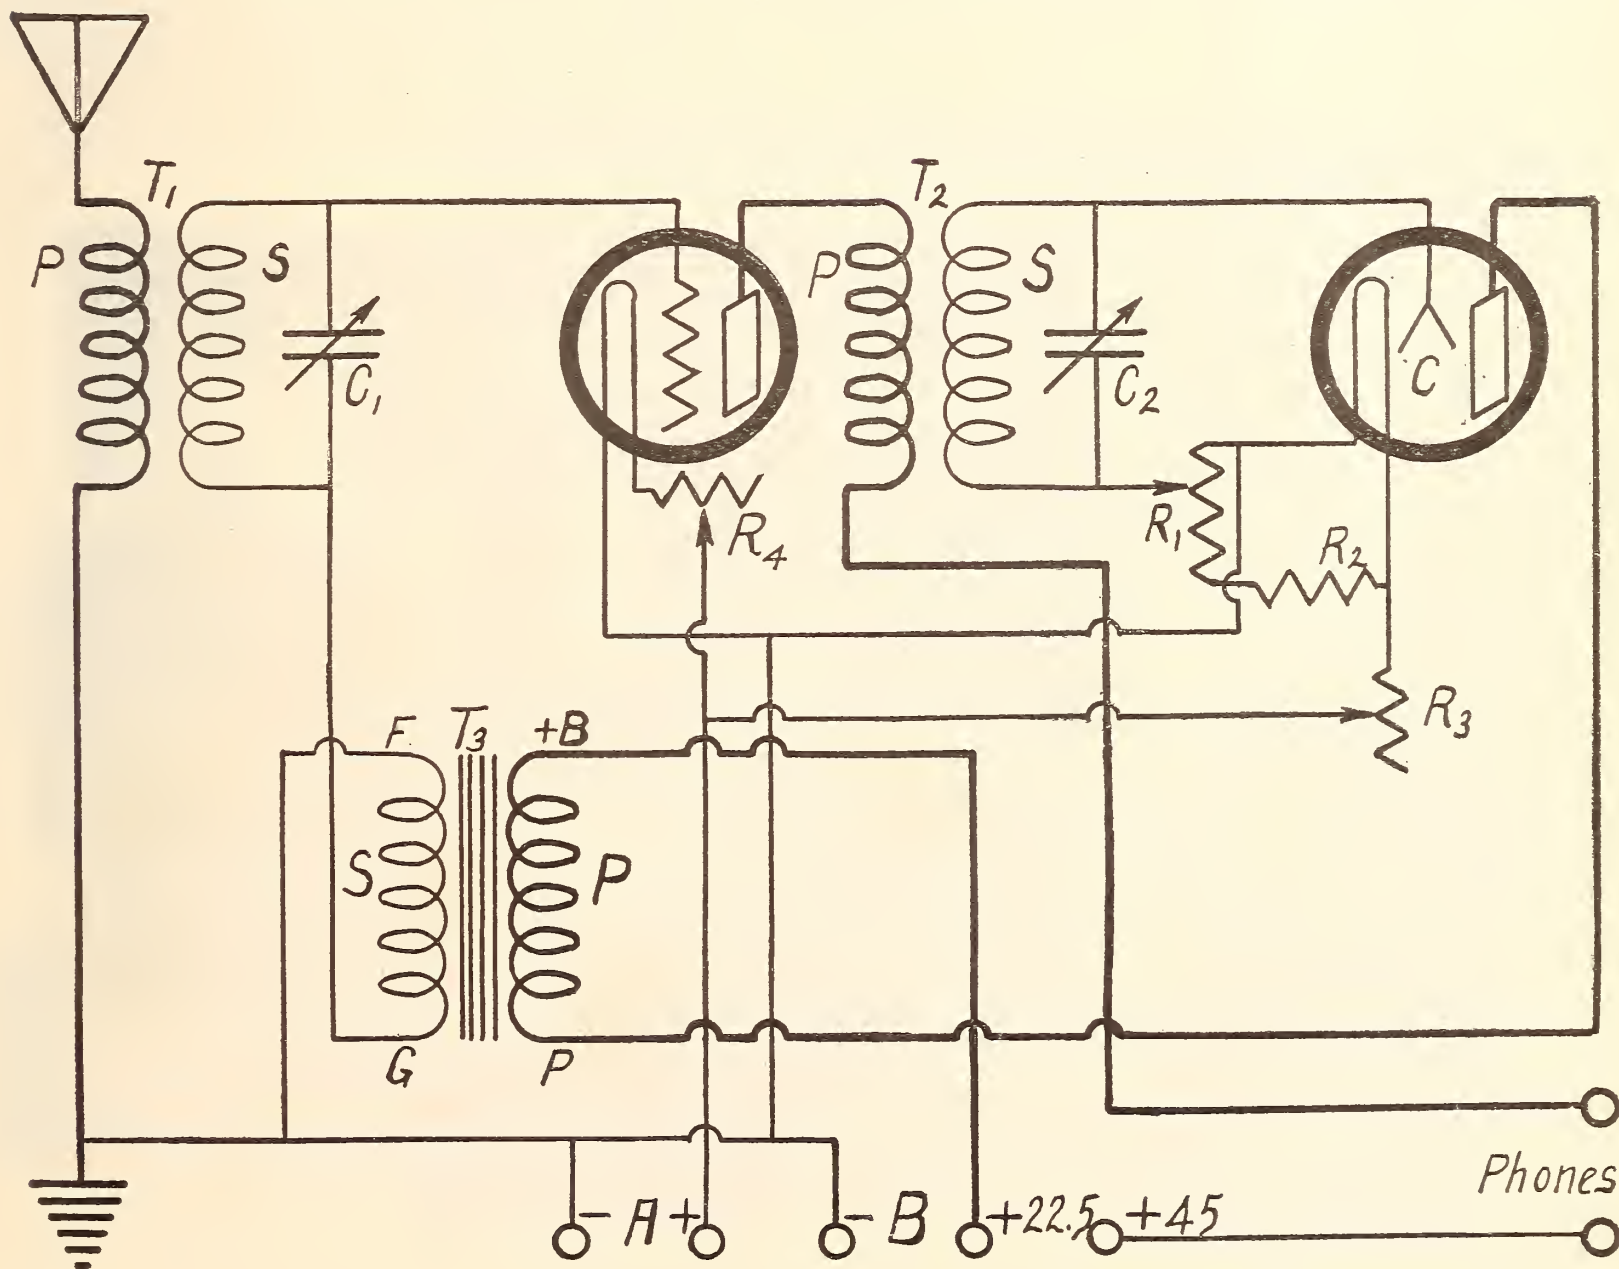
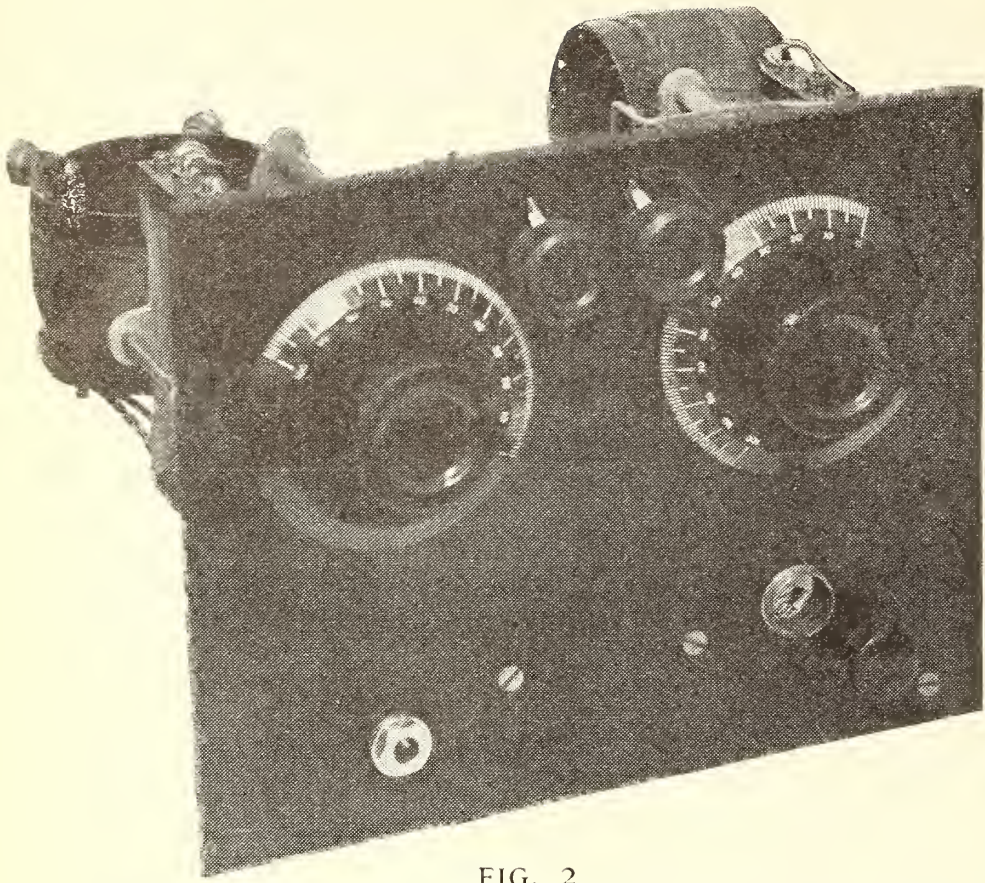

FIG. 1
FIG. 2
Connection of wavemeter circuit of Fig. 1 as a wavetrapp. The meter vacuum tube circuit is omitted in this case
Connection of wavemeter circuit in Fig. 1 as wave trap in loop receiver. The vacuum tube circuit is omitted as indicated by the dotted lines
By the addition of the units shown here the wavemeter of Fig. 1 may be used as one stage of tuned radio-frequency amplification with any receiver. The .00025 condenser may be variable, as shown by the dotted arrow
The Sodion detecting circuit is a simple one, and it was illustrated fundamentally in the Lab department for last month. The input and output circuits are similar to those of the standard tube, and Fig. 1 shows the manner in which the Sodion bulb is substituted for the crystal detector.
Returning to Fig. 1: R1 and R2 may be a single resistance, a standard potentiometer of about three hundred and fifty ohms. But, as the required variation of resistance is generally confined to a comparatively small ohmage on the negative side of the potentiometer, the Connecticut Telephone and Electric Company, Meriden, Connecticut, has designed two resistances, a variable and a fixed one, respectively R1 and R2. The variable
**I**F YOU have built up a set according to original description which appeared in November, the Sodian tube detector may be added to it in accordance with the circuit of Fig. 1, and as shown in Figs. 2, and 3,